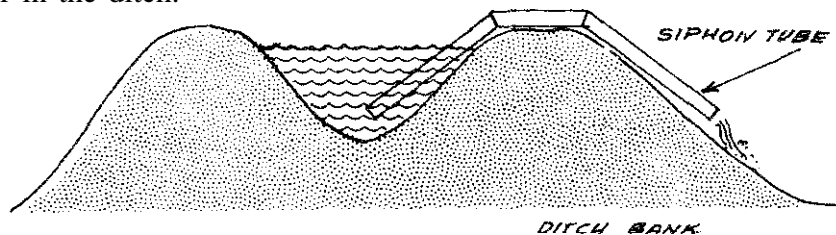
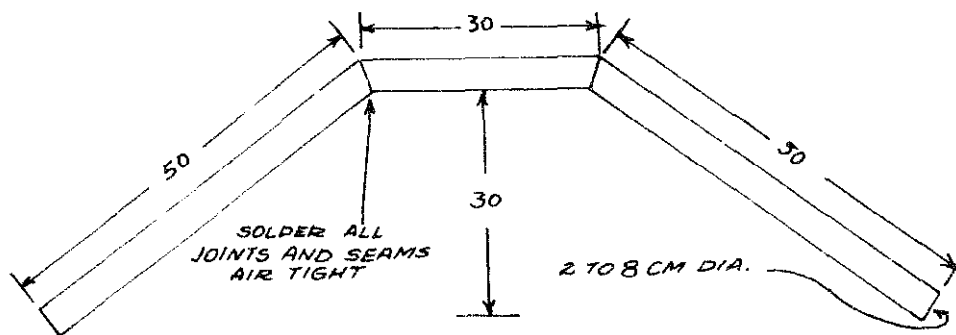

FIGURE 1
FIGURE 2
The galvanized metal siphon tube described here can be used for irrigation (see Figure 1). It can be easily made and repaired by tinsmiths. A siphon can also be made from a piece of rubber hose or by bending a piece of plastic tubing. Construction details are given in Figure 2.
There are several good ways to start a siphon tube. The simplest way is to put the tube in the ditch until it **fills** with water. **Holding** one hand over the end of the tube, so that air cannot get in, **lift** the tube out and place it as shown in Figure 1. Be sure the other end of the tube does not come out of the water **while** placing the tube. When the tube is in place, remove your hand and the water will begin to flow. The end of the **tube** outside the ditch must be lower **than** the level of the water in the ditch.
the tile lines. While tile lines must be level, they do not have to be straight; they can follow a contour or double back to make a more convenient system of installation with four or more lines connected to make one unit (Figure 2).
In dry seasons, the tiles supply water to the plant roots. In wet seasons, the water escapes through the sand and gravel around the tile and follows the concrete tube formed by the tiles to a drainage outlet (see Figure 2). While passing downward through the soil to the tile, the water draws air into the soil and supplies oxygen to the helpful bacteria and to the plant roots.
- o Grade the garden plot to within 5cm to 7cm (2" to 3") of level **and** make trenches **30cm** "12") deep, according to the design in Figure 2. This **will** give an even distribution of the water. Check the bottom of the tile ditches to be sure they are level. **Only** the drainage outlet **will** have a drop.
- o For irrigation, the tile system is used with its drain plug securely closed (see **Figure 2**). Water is run into the line once or twice a week, by means of a hose, until the soil becomes moist. For drainage, simply **pull** the plug.